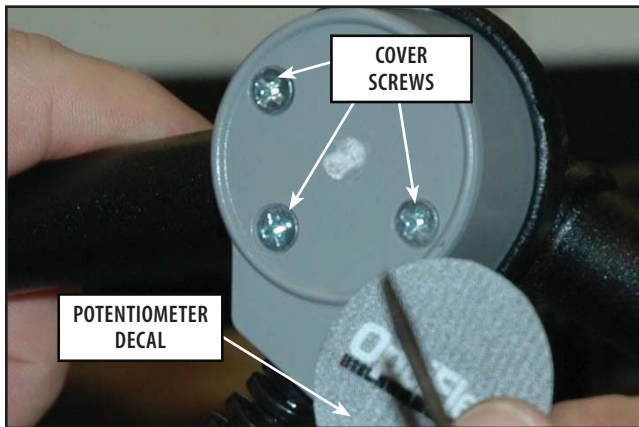

FIGURE 6.9
2. Use a fine edged tool to lift the Decal on the Potentiometer and remove. **Refer to Figure 6.9.**